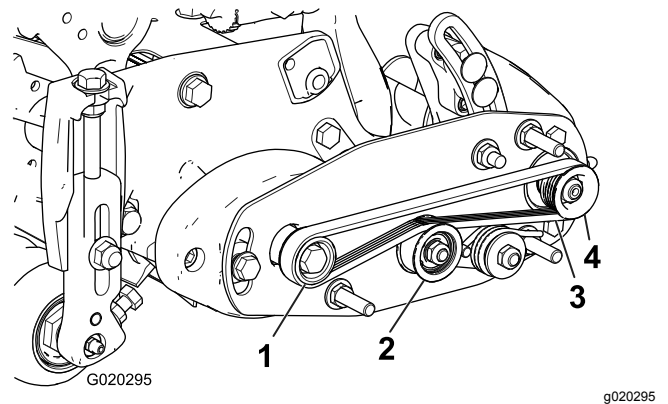
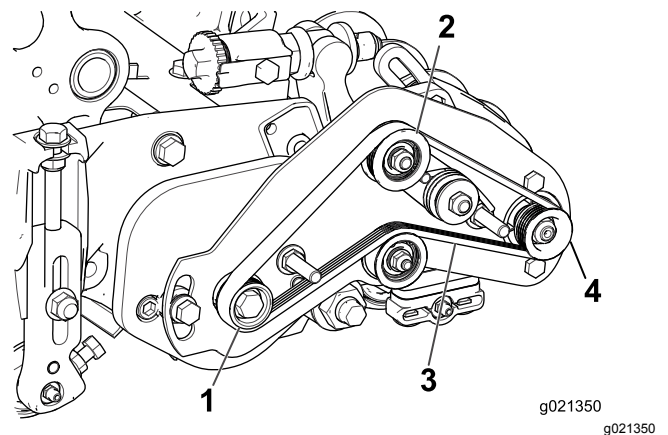

Figure 21
Figure 22
- Loop the belt around the **drive** pulley and then over the top of the idler pulley (Figure 21 and Figure 22).
- Install the belt on the **driven** pulley (Figure 21 and Figure 22).